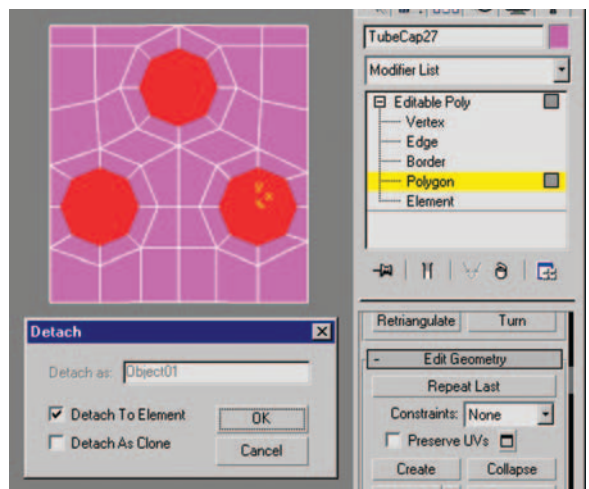

Figure 5.17 Detach To Element.
17. Activate the Polygon subobject level and select the three new polygons you just created. Under the Edit Geometry rollout, click Detach and select Detach To Element (Figure 5.17).